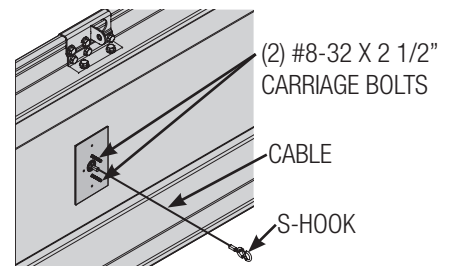

FIG. 3.4
NOTE: (For Models 9100 and Wood Doors) From the inside of door, insert the s-hook through the middle hole of backup plate. Align the top and bottom holes in the backup plate with the (2) #8-32 X 2 1/2” carriage bolts and position it against the top section, as shown in **FIG. 3.4**.